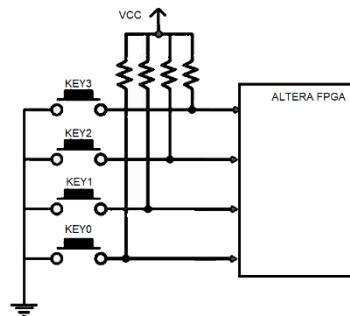

Figure 10.2: FPGA development board buttons used to operate the stopwatch.
Figure 10.2 shows the schematic of the buttons (key1 ... key4) on the C5G development board that you will use to control the operation of the stopwatch; the S1 and S2 buttons in Figure 10.1. The buttons shown in the schematic are in their nominal position – not being pressed by a user. You should note that the contacts of each button (open circles) are disconnected. This leaves the right side of the button connected to VCC through a resistor as well as the Altera FPGA. This resistor is called a pull-up resistor, and as its name implies, pulls the voltage on the right side of the push button up to VCC – logic 1. When a button is pressed, the contacts are connected and the right side of the push button is connected directly to ground, forcing the voltage on the respective FPGA pin to logic 0.
To summarize the operation of the buttons shown in Figure 10.2. When a user presses a